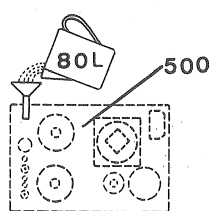

Fig 21
4. Fill the dielectric tank (500) with 20 American gallons* (80 litres) of dielectric fluid (fig. 21). The following dielectric fluids are recommended, though others having the same characteristics may be used :